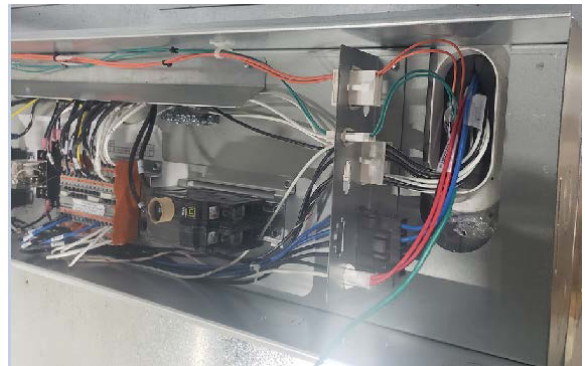

Fig. 59 Connect harnesses to their mates inside junction box
6. Plug the unique case harness connectors into their corresponding mates inside of the box (Fig 59).